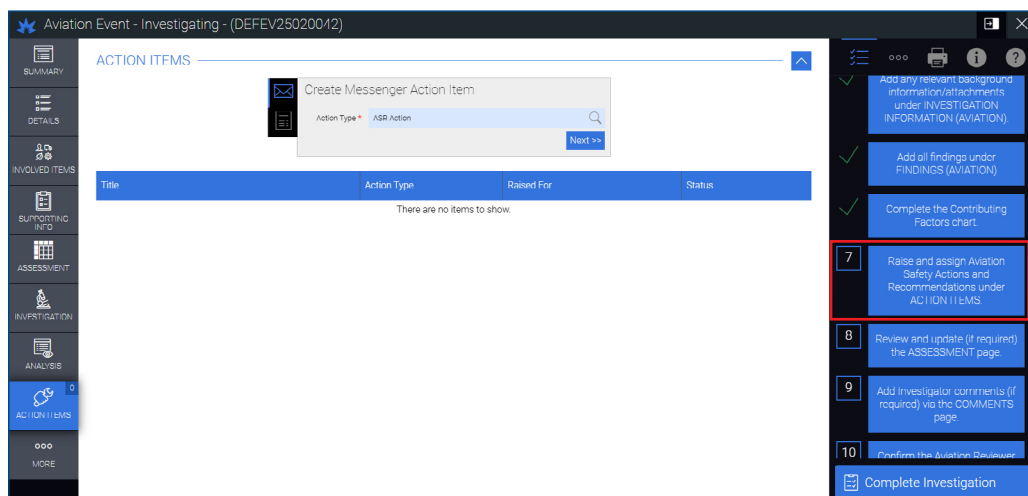

Figure 55: Action Items page
Checklist item 7 navigates the user to the Action Items page (Figure 55). This is where the user can raise new aviation safety actions or recommendations and assign them to recipients as well as recording safety actions already completed.